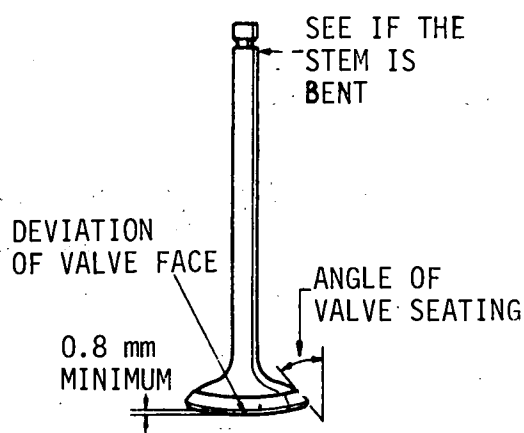

Fig. 3
- a) Check the thickness of the valve head (fig. 3).